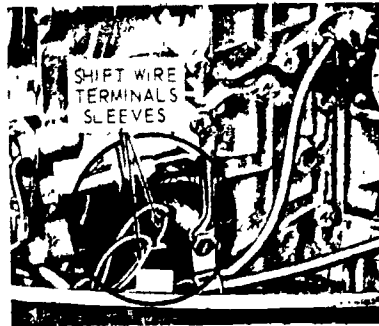

FIGURE 1
- D. Disconnect shift cable from motor cable (Figure 1)